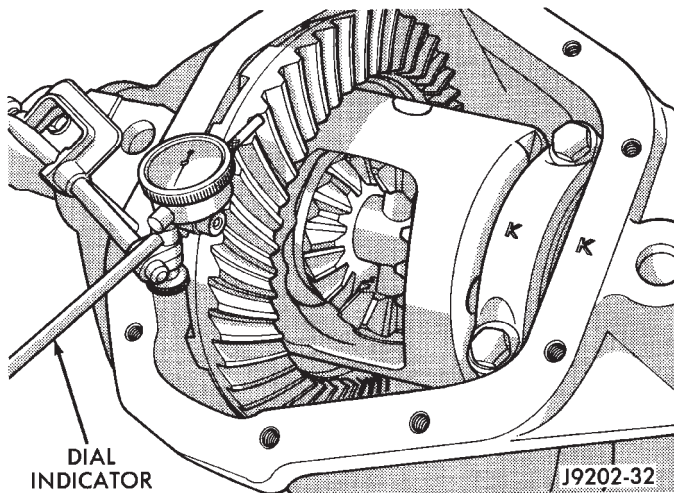
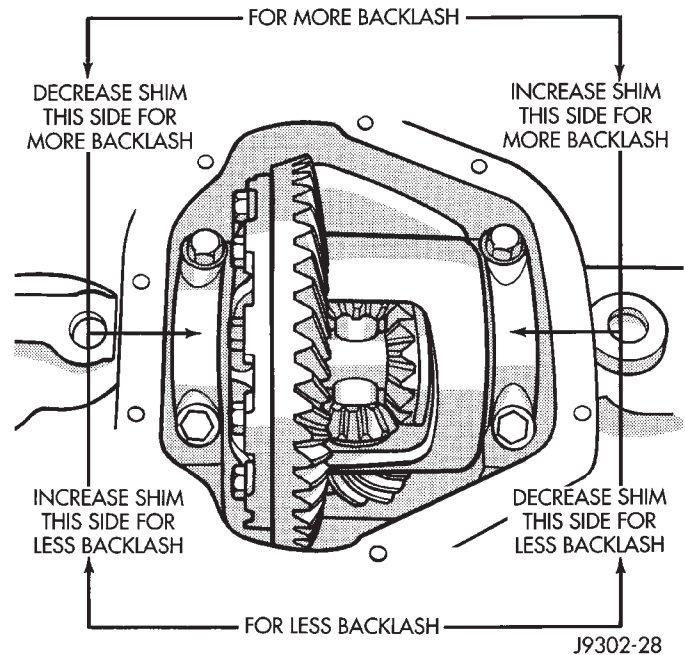

Fig. 76 Ring Gear Backlash Measurement
Fig. 77 Backlash Shim Adjustment
(34) Rotate the differential case several times to seat the side bearings.
(35) Position the indicator plunger against a ring gear tooth (Fig. 76).
(36) Push and hold ring gear upward while not allowing the pinion gear to rotate.
(37) Zero dial indicator face to pointer.
(38) Push and hold ring gear downward while not allowing the pinion gear to rotate. Dial indicator reading should be between 0.12 mm (0.005 in.) and 0.20 mm (0.008 in.). If backlash is not within specifications transfer the necessary amount of shim thickness from one side of the axle housing to the other (Fig. 77).
(39) Verify differential case and ring gear runout by measuring ring to pinion gear backlash at several locations around the ring gear. Readings should not vary more than 0.05 mm (0.002 in.). If readings vary more than specified, the ring gear or the differential case is defective.